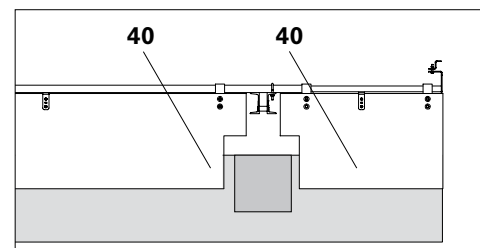

Fig. B4.02b
Adapt foldable covers (40) to suit the building columns. (Fig. B4.02b)